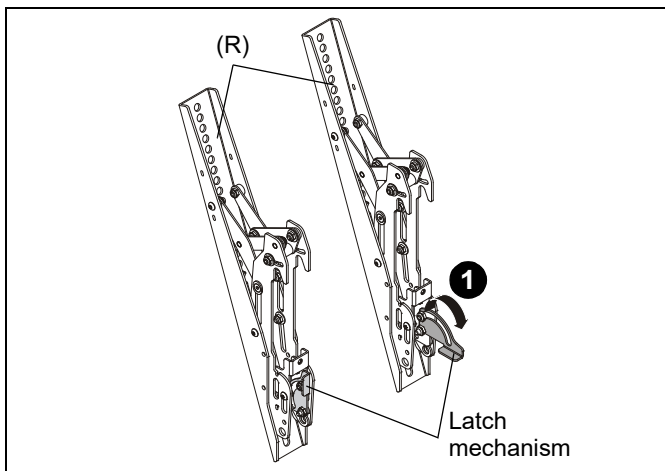

Figure 25
- Lower the latch mechanism on each interface bracket (R). (See Figure 25)
1. Ensure that the latch mechanisms on interface brackets (R) are already lowered. (See Figure 25)